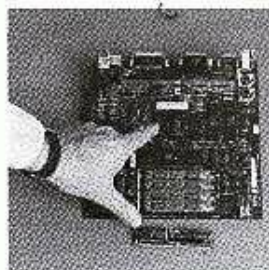

Figure 2-6
- d. Remove the Hi ROM chip (the chip on the left) from the main logic board and install it in the left connector on the Outbound's SIMM card. See Figure 2-6. Make sure you install the ROM chip with its notch to the right (as indicated on the SIMM card).